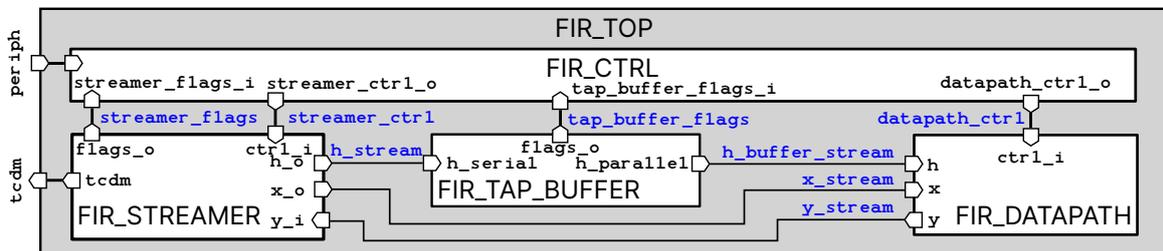

Figure 16: Block diagram of `fir_top`. Commonly used signals are removed for cleanliness.
In the above tasks, the control functionality is managed by the testbench. However, in a real-life scenario, you would want a host, such as a RISC-V core, to program the HWPE, allowing it to autonomously execute tasks and notify the RISC-V core upon completion. In the next task, we will simulate such a design. A block diagram of the HWPE is shown in Figure 16. Compared to the previous design, the `FIR_TOP` now includes:
*Hint: Refer to Figure 16 for the appropriate signal names.*